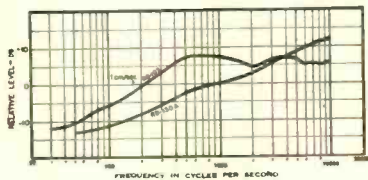

Fig. 2
RD-103 12-inch, $33\frac{1}{2}$ rpm, LP Microgroove. Frequency bands of 10, 9, 8, 7, 6, 5, 4, 3, and 2 kc; 1500, 1000, 800, 500, 400, 300, 200, 150, 100, 70, 50, and 30 cps. Levels as shown at (A) in Fig. 2. This record is essentially flat over constant-velocity portion, with crossover at 500 cps.
RD 130A 12-inch, $33\frac{1}{2}$ rpm, LP Microgroove. Frequency bands same as RD 103, except levels arranged so as to reproduce ± 2 db of "flat" on correctly equalized LP reproducing system. Levels as shown at (B) in Fig. 2.